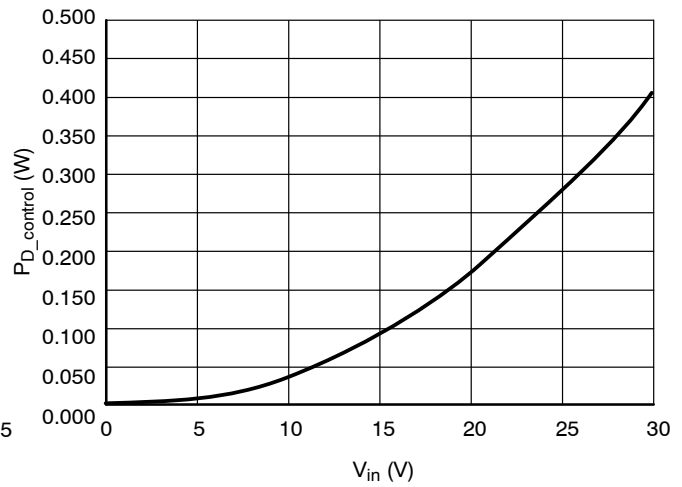

Figure 4. Internal Circuit Power Dissipation vs. Input Voltage
7. Establish Power Dissipation on the NUD4001 device's control circuit per Figure 4:
- a. $P_{D\_control} = \text{Figure 4, for } 12 \text{ V input voltage}$